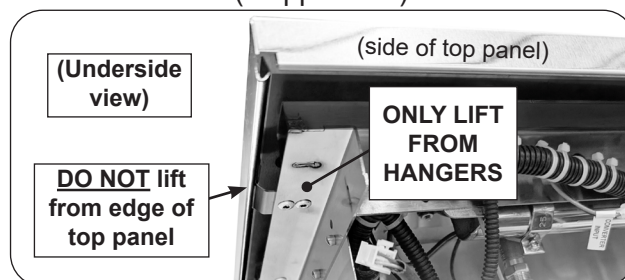

Fig. 29-2 Lift from hangers
- lift directly from underneath at the hangers. See Fig. 29-2.